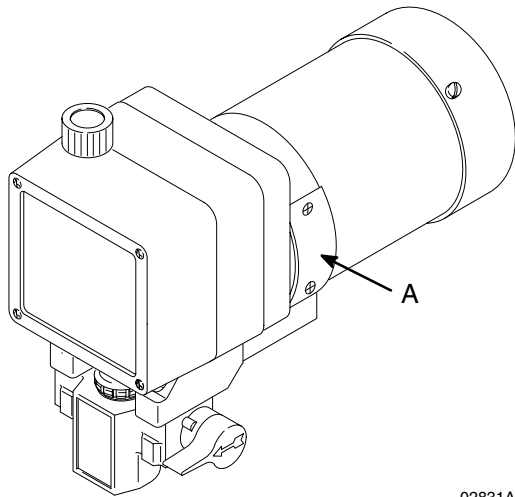

Fig. 15 02831A
2. Remove both inspection covers (A) and their gaskets. See Fig 15.